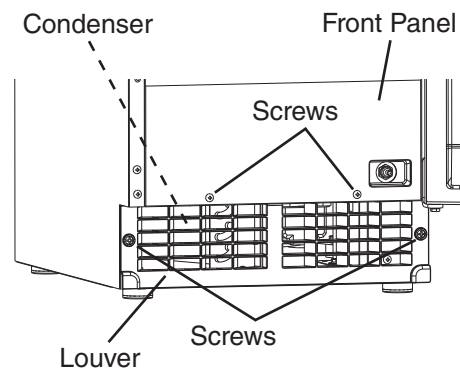

Fig. 49
2) Remove the 2 screws securing the front panel, then remove the panel. See Fig. 49.